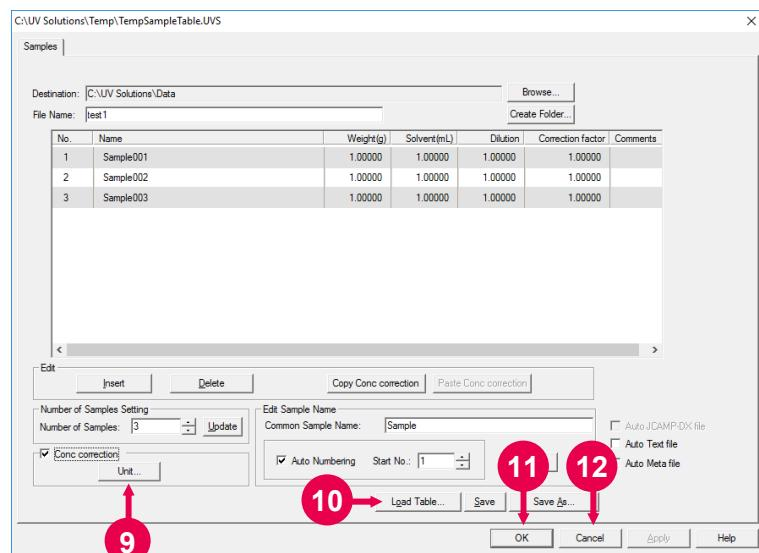

Fig. 4-41
- (f) Click the **Paste Conc correction** button. Concentration correction coefficient on the source row will be copied onto the plural active rows. (Fig. 4-41) Sample name and the contents of comment will not be copied.